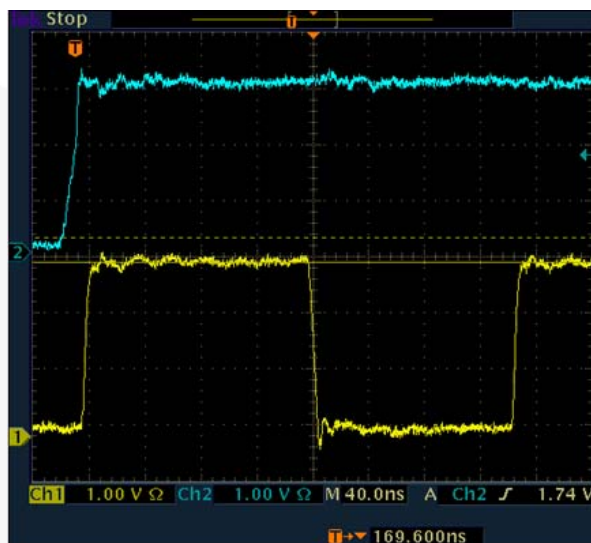

Figure 13. Scope Shot of I/O and Clock Signals
Due to open-drain technology, hosts and SIM cards do not use push-pull drivers on the I/O pin. Logic LOWs are pulled down ( $I_{sink}$ ), while logic HIGHs are “let go” (3-state). During a logic LOW on the I/O pin, both series NpassGates are turned on and act like a very low resistive short between the host and the SIM card. When the host or card lets go of a previously held LOW on the I/O pin, the rise time is largely determined by the RC time constant, where R is the internal pull-up resistor (10K $\Omega$ ) and C is the I/O signal trace capacitance. The FXLA2203 acts as a very low resistive short between the host and SIM card (during a LOW) until either of the port's  $V_{CC/2}$  thresholds are reached. After the RC time constant has reached the  $V_{CC/2}$  threshold of either port, the port's edge detector triggers both dynamic drivers to drive their respective ports in the LOW-to-HIGH (LH) direction, accelerating the rising edge. The resulting rise time resembles the CH2 waveform (blue) of Figure 13. Effectively, two distinct slew rates appear in the rise time. The first slew rate (slower) is the RC time constant of the I/O signal trace. The second slew rate (faster) is the dynamic driver accelerating edge.